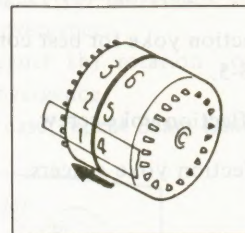

Fig. 2-4. Digit setting
2. Set the digits on the dial drums as shown in Fig. 2-4, and then fix them with cellophane tape.